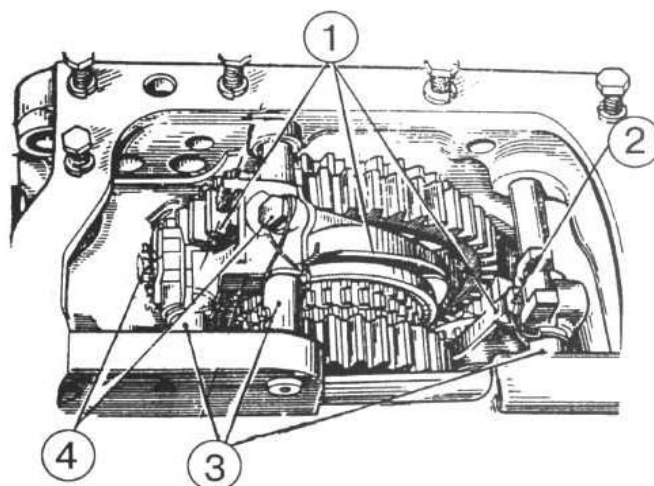

Figure 4.62
k) unpin and unscrew bolts 2 (Figure 4.62) of yokes 1 on leads 3, knock leads out of body and pull out yokes;